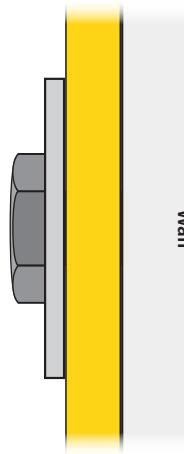

FIG. 9
- 9 Tighten these four fasteners to secure the Wall Bracket (F) to the wall [FIG. 9].